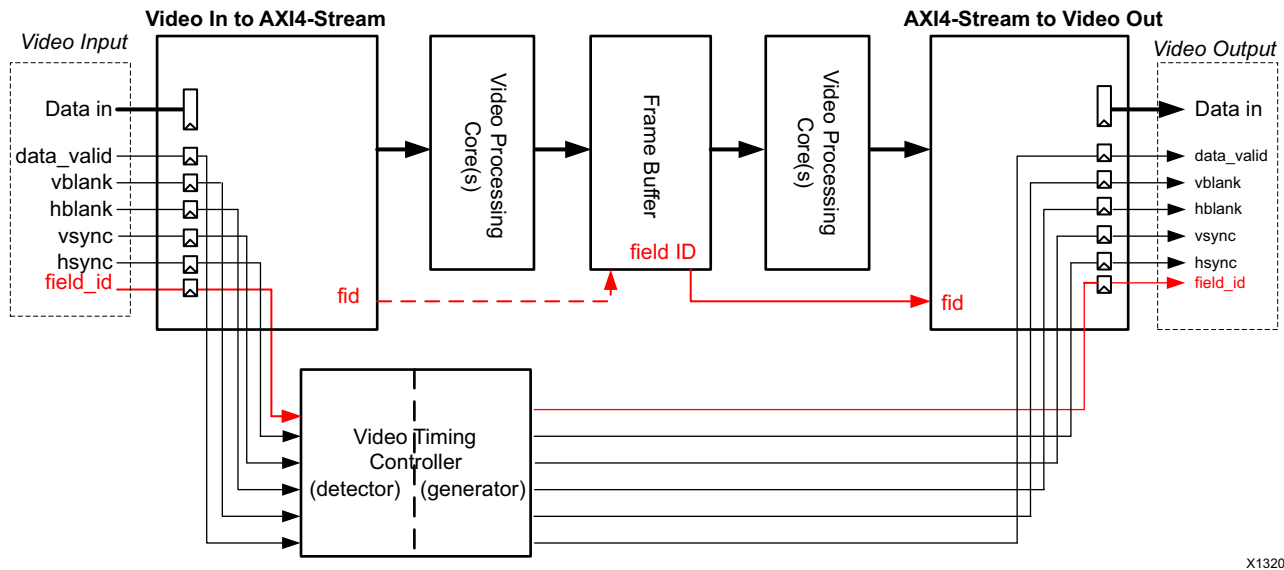

Figure 3-6: Field ID Connections with a Frame Buffer
The AXI4-Stream to Video Out core has a field ID input, `fid`, sampled in time with the AXI4-Stream input bus. This `fid` bit must be asserted by the upstream source of AXI4-Stream video. For systems without a frame buffer or de-interlacing, the field ID input originates from the Video In core, as shown in Figure 3-6.
For systems with a frame buffer, the field ID input can come from any core containing a frame buffer. The field ID from the Video In to AXI4-Stream core can be used by the frame buffer if necessary, shown in Figure 3-6.
**Note:** In Figure 3-6, the AXI4-Stream to Video Out core is operating in slave mode.